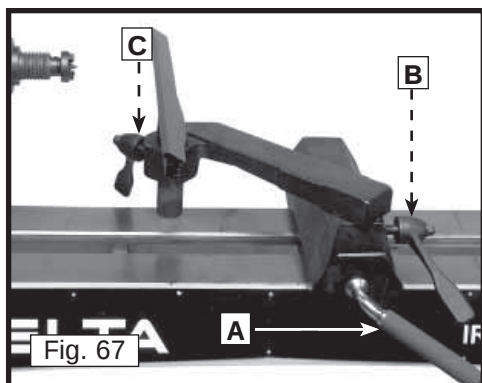

Fig. 67
6. The tool rest with the auxiliary extension can be placed in several different angles and positions. Select the one best suited for your work. Fig. 67 shows the position normally used for bowls and other outboard turnings. To move the tool rest on the bed, loosen the handle (A) Fig. 67 and slide the tool rest to the desired position, and then tighten the handle. To change the angle of the tool rest, loosen the handle (B) Fig. 67, move the auxiliary extension to the desired position, then retighten. To raise the height of the tool rest, loosen the handle (C), raise the tool rest to the desired height, then retighten.